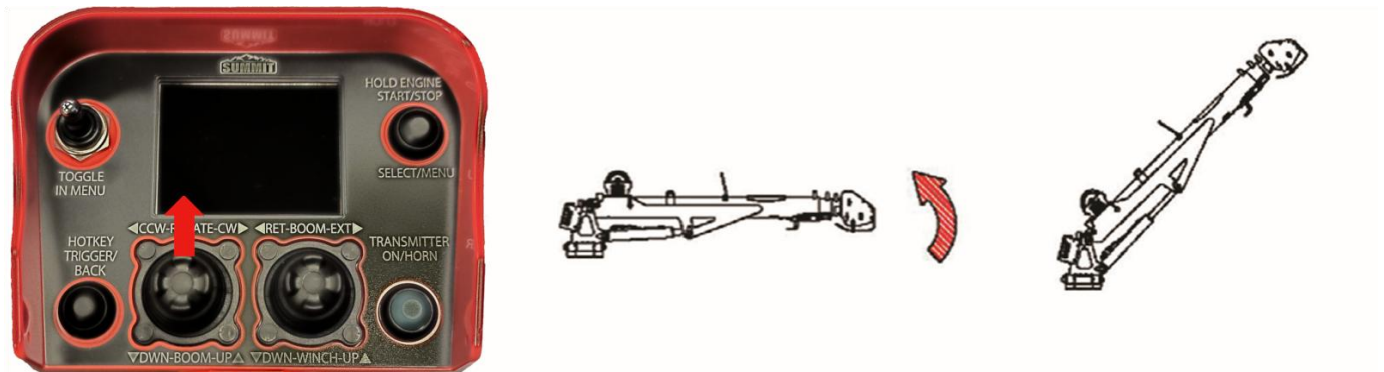

Figure 2-48.
1. Press up on the left joystick to raise the boom (see Figure 2-48).